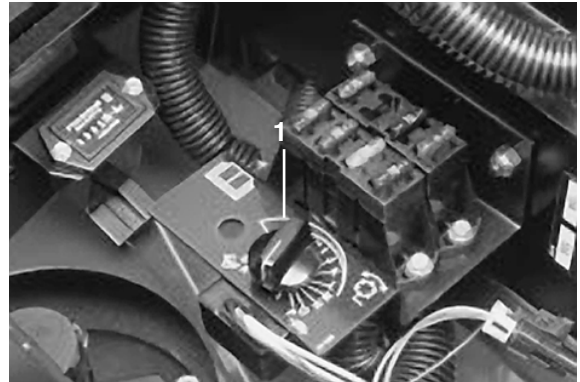

Figure 17
- Open the control cover and turn the height-of-cut selection knob to position “P” (Fig. 17).